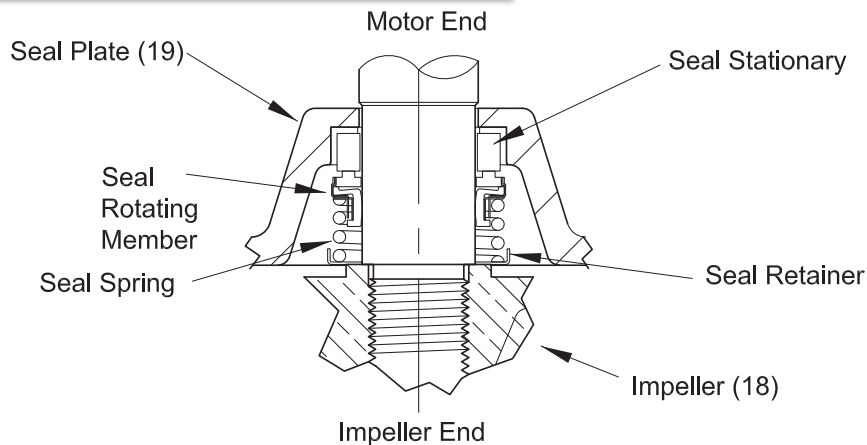

Figure 5
Press stationary firmly into seal plate (19) using a seal pusher tool. Be sure the stationary member is in straight. Nothing but the seal tool is to come in contact with seal face. (See Figure 5)